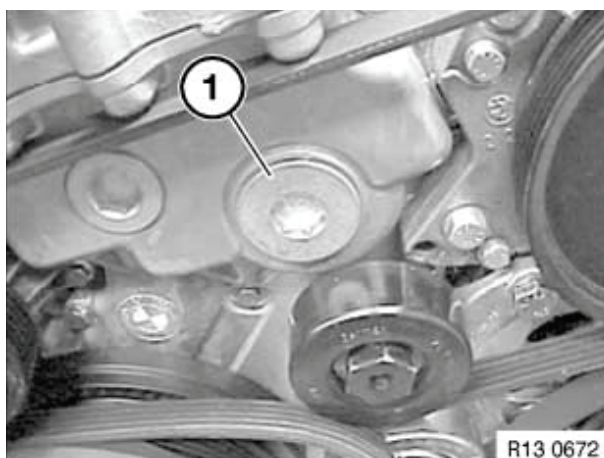

Figure 6-21
9. Remove plug (**Figure 6-21, (1)**).